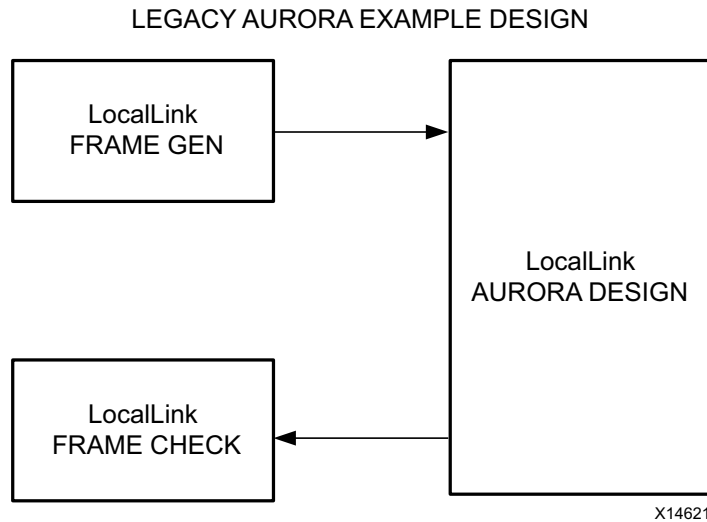
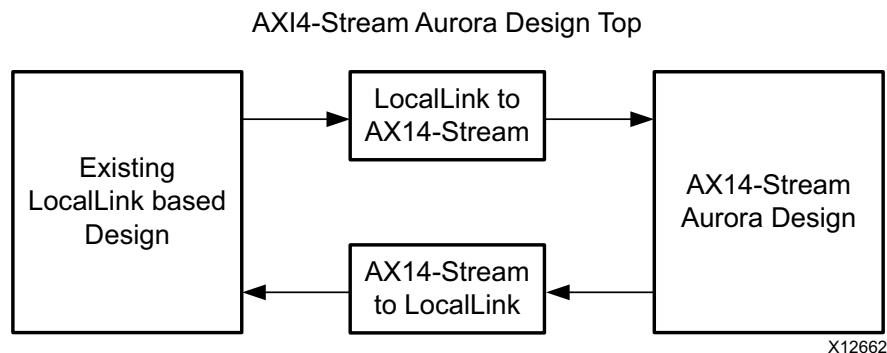

Figure B-3: Legacy Aurora 64B/66B Example Design
Figure B-4: AXI4-Stream Aurora 64B/66B Example Design
Figure B-3 shows an example Aurora 64B/66B design using the legacy LocalLink interface. Figure B-4 shows an example Aurora 64B/66B design using the AXI4-Stream interface.
2. See Figure B-4 for the emulation of a LL Aurora 64B/66B core from a AXI4-Stream Aurora 64B/66B core.
5. Connect the shim and AXI4-Stream Aurora 64B/66B design as shown in Figure B-4.